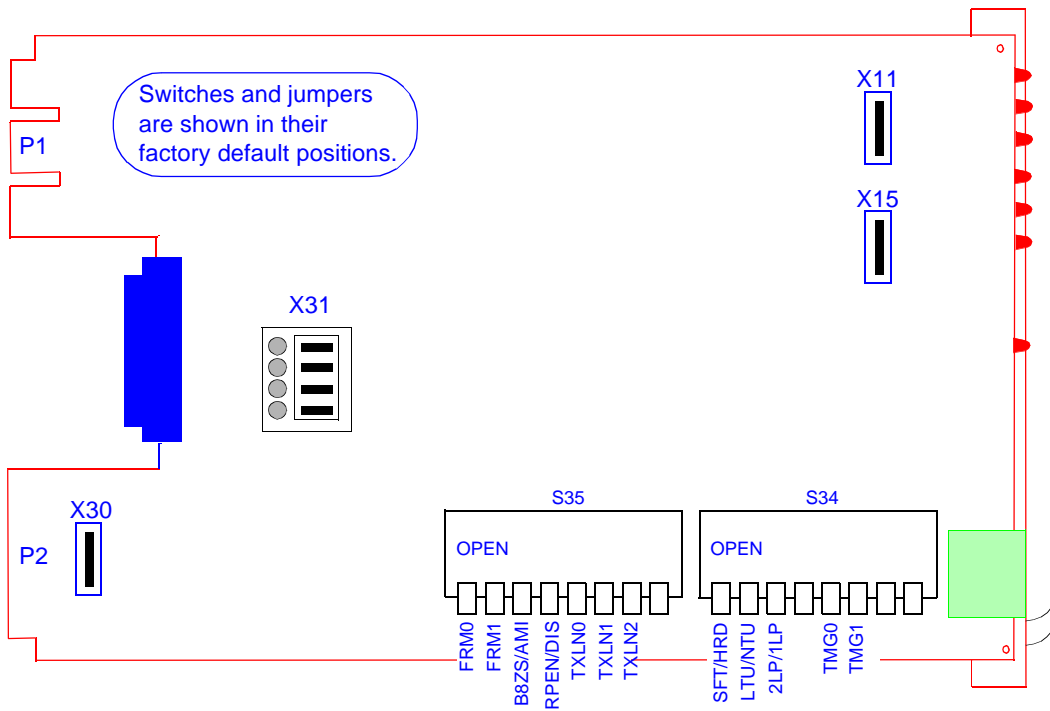

Figure 2-1 Option Switch and Jumper Locations
Setting the hard options on the cards means adjusting configuration Switches S34 and S35 and jumpers to match your network operation. *Table 2-1* explains the functions of the switches and jumpers, and *Figure 2-1* shows their locations. You can choose the hard configuration by Switch S34-1.
3. Set the remaining switches and jumpers according to *Table 2-1* and *Figure 2-1*.